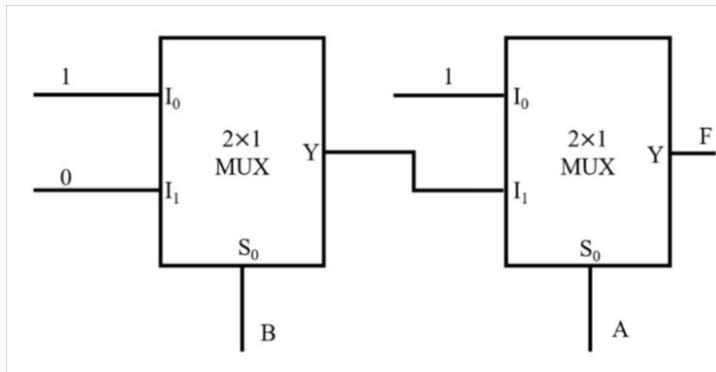

Fig. 4.24
43. The output F of the digital circuit shown in Fig. 4.24 can be written in the form(s) _____